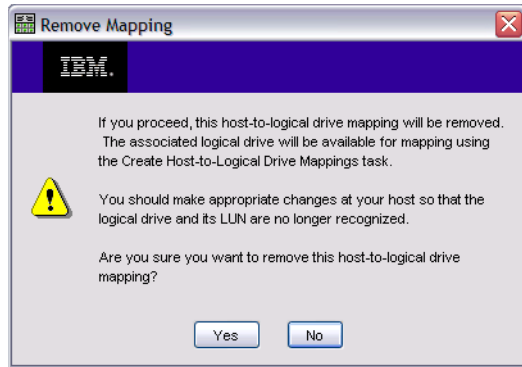

Figure 11-15 Remove Mapping
3. The Remove Mapping window appears (Figure 11-15 on page 231).